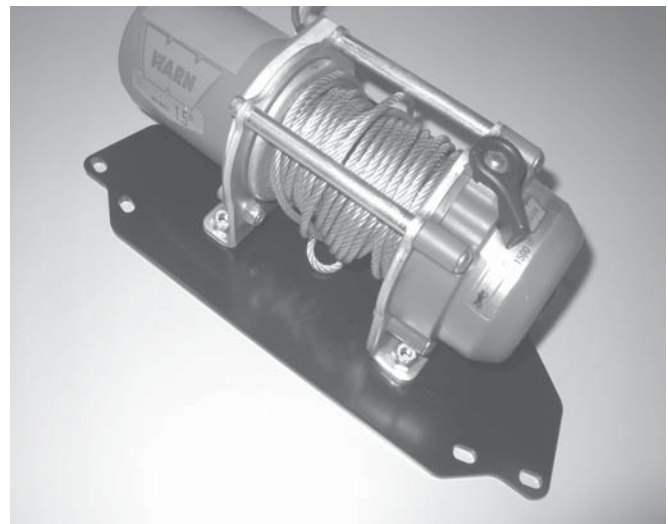

Figure 3 Install Winch and Fairlead to Mounting Plate
3. Mount a Warn 1.5ci winch to the mounting bracket (A1) with the four 5/16" X 3/4" bolts found in the winch mounting kit, figure 3.